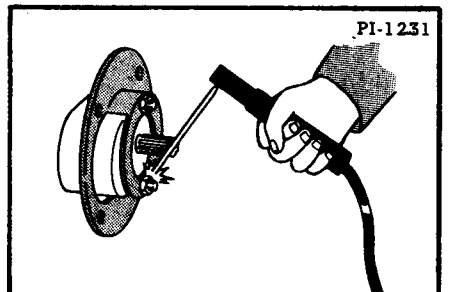

Fig. 155 Welding Nuts to Plate
2. Remove the two pump mounting screws and reinstall them with the screws and lock washers on the pump side and the nuts on the mounting plate side. Tighten securely and arc or gas weld the nuts to the plate to anchor them (Figure 155). Do not overheat the cast mounting plate, or it may crack.